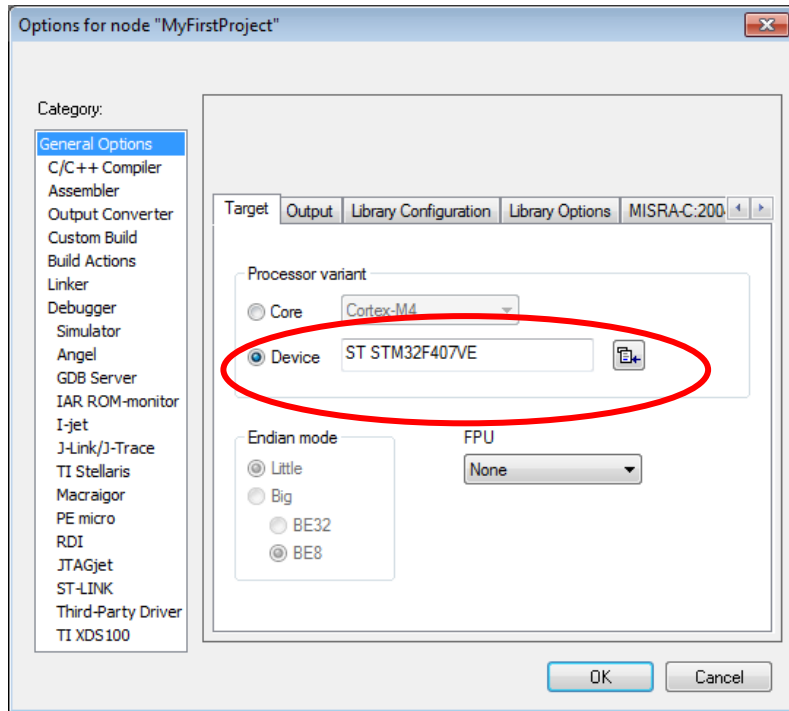

Figure 7: Select the microcontroller
- The IAR Embedded Workbench needs to know the microcontroller to compile for. Under “General Options” click “Device” and select the appropriate ST microcontroller as shown in Fig. 7.